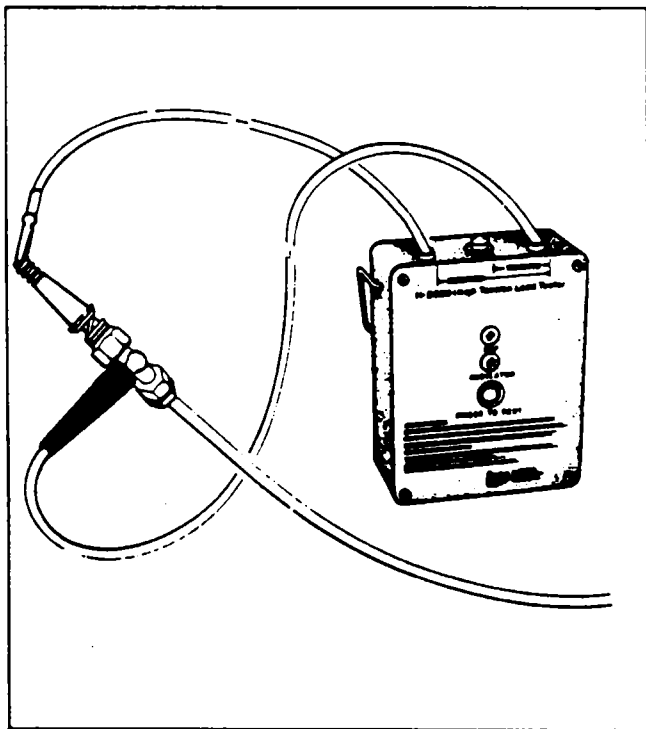

Figure 74-10. Checking Harness Lead Insulation Resistance
- A. Attach the red high voltage test lead to contact spring of harness lead. (Refer to Figure 74-10.)
- B. Attach the black test lead to the ferrule of the same harness lead. (Refer to Figure 74-10.)